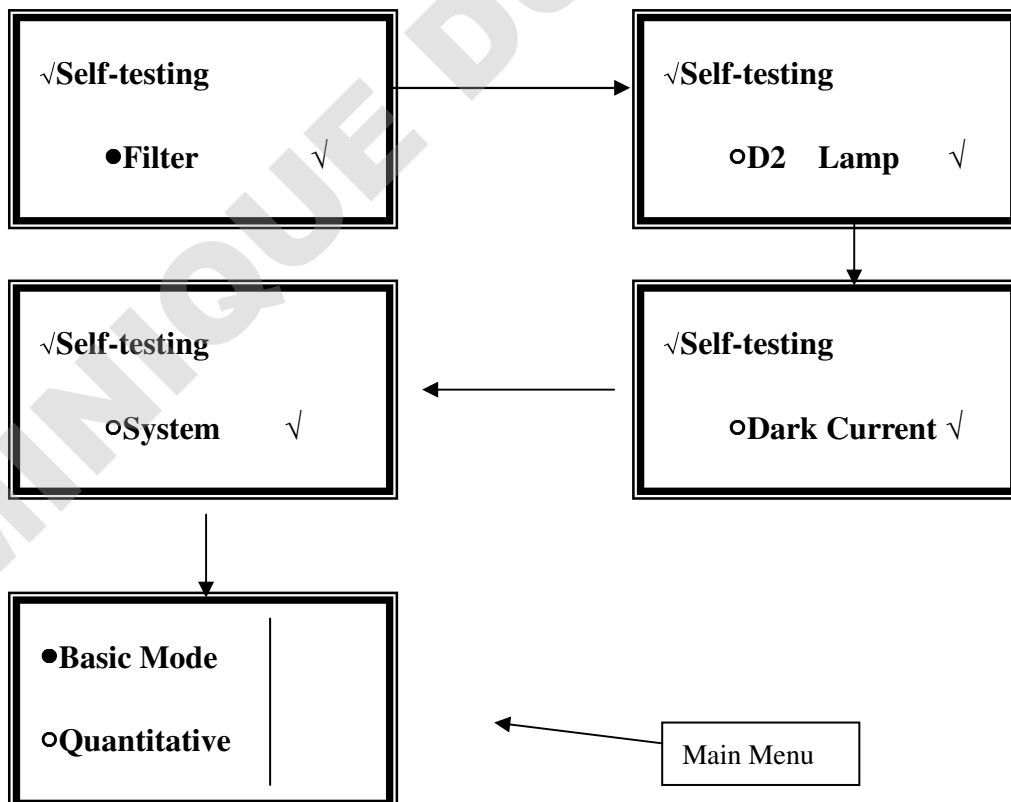
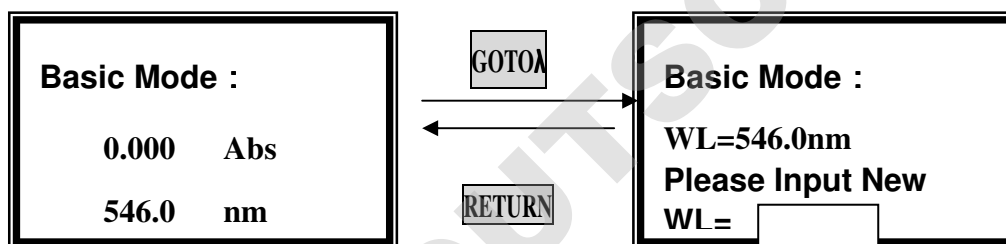
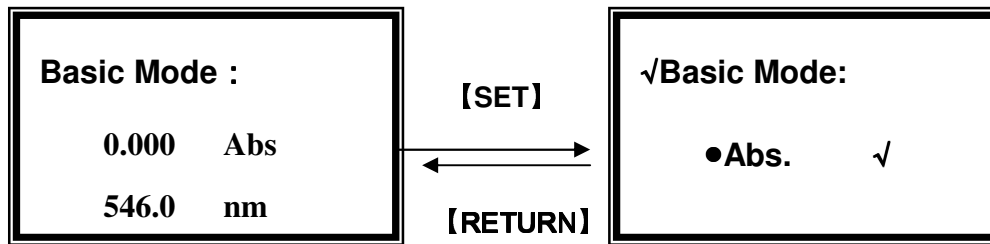

Fig 3
Fig 4
Fig.7
*1. The instrument will position filter first, then initialize lamp position and AD converter, then D2 / W lamps warm up, then Wavelength reset and get dark current, After initializing printer, checking battery and setting up system, the screen display the main menu. And the self-testing process display as fig 3.*
- ✧ Press **[GOTOλ]** (Fig 4).
Push the blank cuvette into the light path. In main menu (the last one of Fig. 3), move the cursor on “Basic mode”, then press **【ENTER】** to go into basic mode test. After automatically blanking, it will display as the left one of Fig. 4 and wait for the operator.
**【RETURN】** to exit to the left of Fig.4, blank at the same time. (Fig. 7)